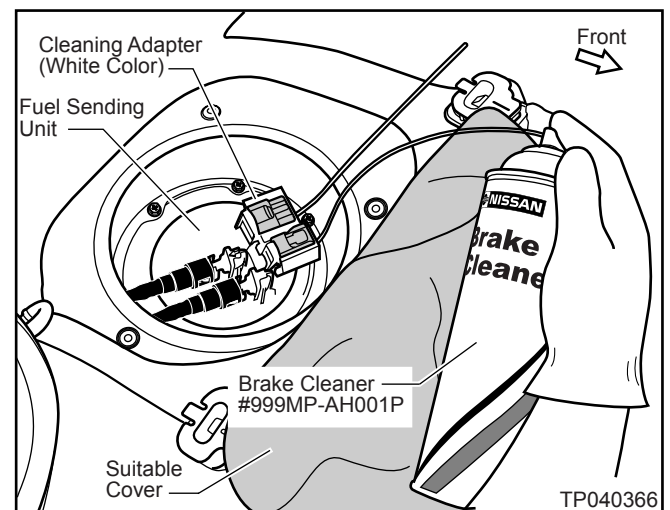

Figure 30
9. Spray Brake Cleaner #999MP-AH001P through each Adapter Tube for about two seconds (see Figure 30).